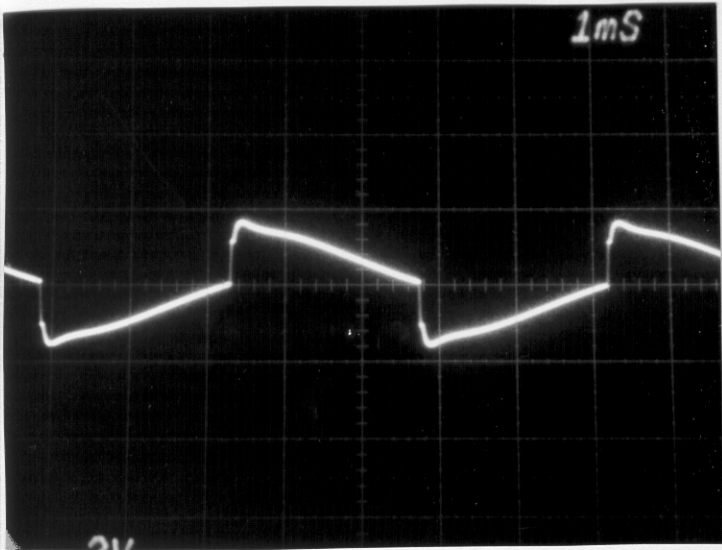
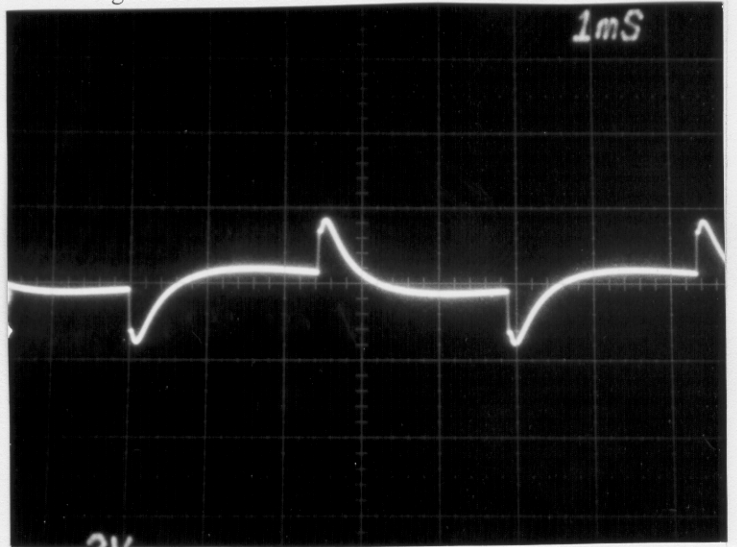

Fig. 9 Bass on 10
Fig. 10 Bass on 0
- D. BASS ON 10 = FIG. 9; BASS ON 0 = FIG. 10.